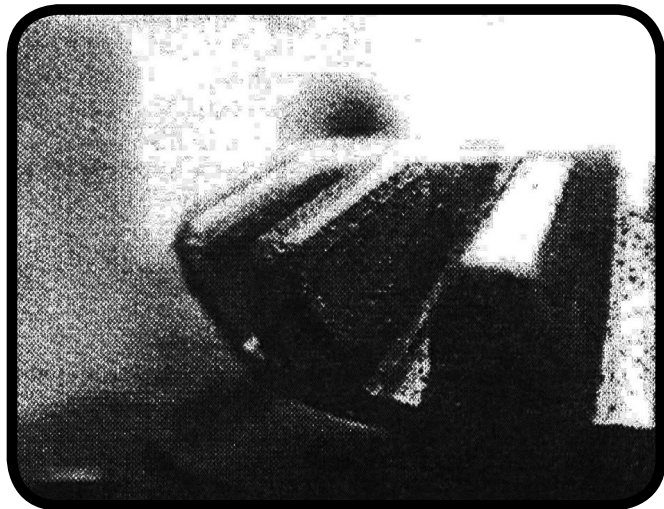

Figure 5
b) Moderately used side gear (Figure 5). Note that some polishing is evident near the top but that the sides of the tooth remain slightly rough.